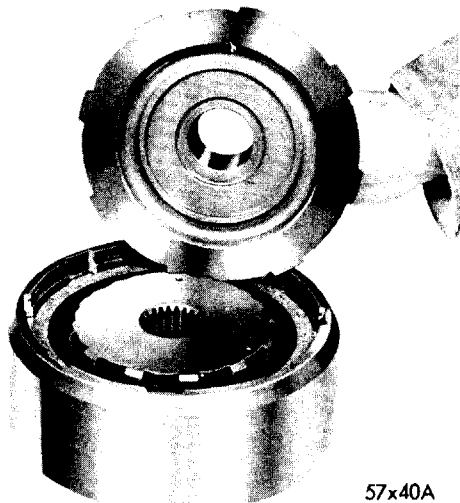

Fig. 29—Removal and Installation of Kickdown Sun Gear
(2) Lift out kickdown sun gear assembly (Figure 29). Remove foreign material which may have accumulated on either side. Inspect driving disc contact surface for evidence of burning or scoring.